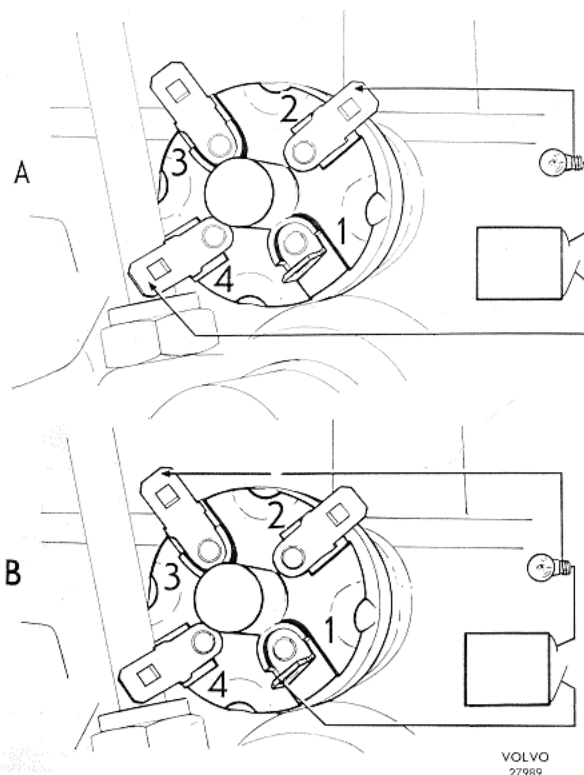

Fig. 31. Adjusting starter inhibitor
3. Connect a control lamp to the reversing light terminals as shown in Fig. 31 "A". Screw in the switch until the lamp goes out. Mark this position on the housing and switch with a pencil.
4. Connect the control lamp to both the other terminals, Fig. 31 "B". Screw in the switch until the lamp lights again and then mark the switch again. Then screw back the switch to halfway between both the marks. Lock with the locknut. Connect the leads.